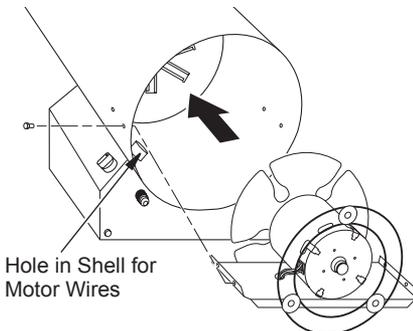

Figure 7 - Replacing Motor, Motor Mount, and Fan Guard into Heater
- Carefully route motor wires through hole in shell (see Figure 7). Place motor, motor mount, and fan guard into rear of heater shell.